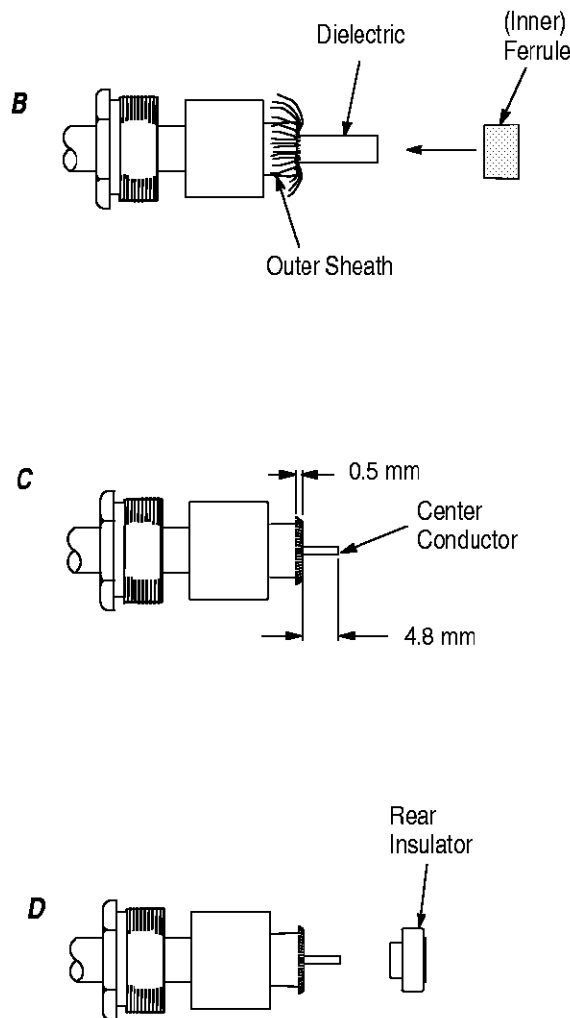

Figure 2
1. Slide the clamp nut and plain gasket over the cable. Trim the outer sheath from cable as shown, exposing the cable braid, as shown in Figure 2,A.
2. Fold back the braid. Slide the (inner) ferrule under the cable braid, trapping the cable braid between the outer sheath and the dielectric. After the inner ferrule is located, trim off the excess braid. See Figure 2,B.
3. Trim back the dielectric. The protruding center conductor dimension should be as shown in Figure 2,C.
4. Tin the center conductor according to local safety practices, then slide the rear insulator over the dielectric so that it butts against the (inner) ferrule and cable end. See Figure 2,D.